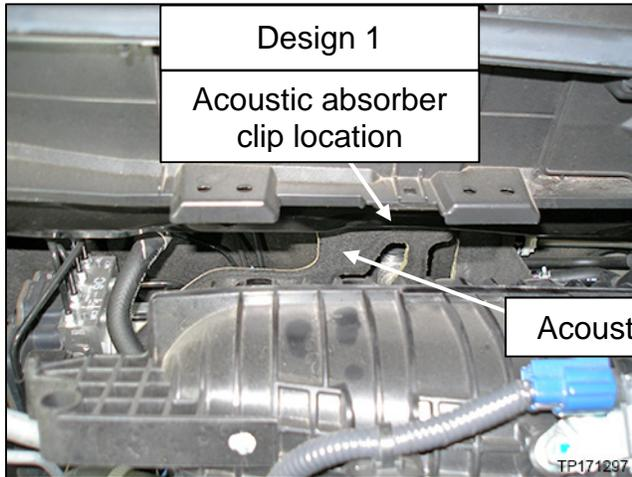
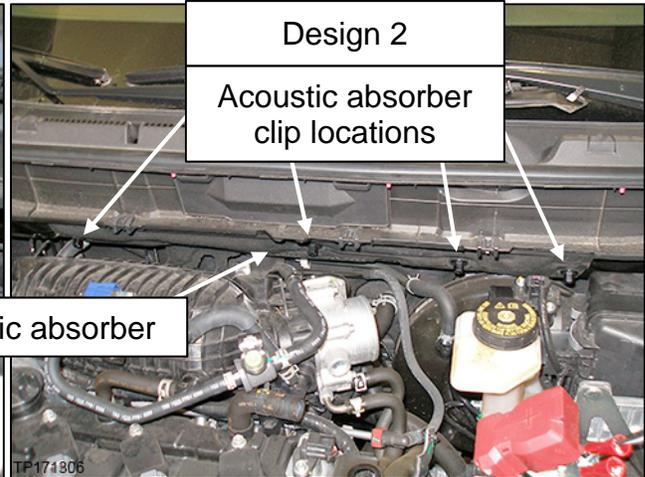

Figure 4
Figure 5
- There are two (2) different possible acoustic absorber designs.
- The clips are located in the approximate area shown in Figure 4 and Figure 5.